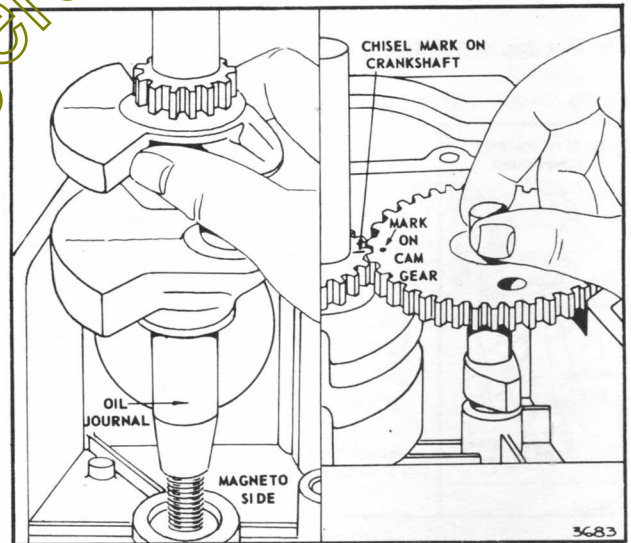

FIGURE 8-2
3. Align the timing marks on the crankshaft and camshaft gears. Install the camshaft. See figure 8-2.